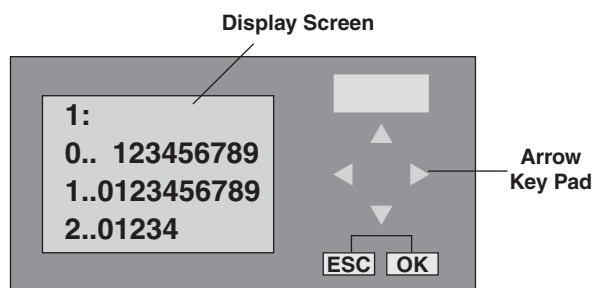

Fig. 1
1. Turn on the power to the machine but do not press the start switch. Remove the front panel and then the control panel cover. **NOTE: Use extreme CAUTION when reaching into the control box, the machine has live power.** Once powered the Smart Relay window will display the following screen, see figure 1 (if screen does not appear press the left/right arrow keys ◀ or ▶ until correct screen appears).